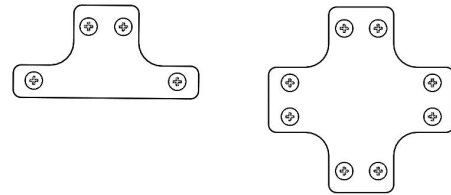

FIGURE 2.42 - Trim Plates
NOTE: Alternative Installation - Use trim plate (#22) for cage bank assemblies where the cage joints don't align with the bottom cage joints. See FIGURE 2.42
- Use trim plate (#44) for cage bank assemblies where the cage joints align with the bottom joints. See FIGURE 2.42